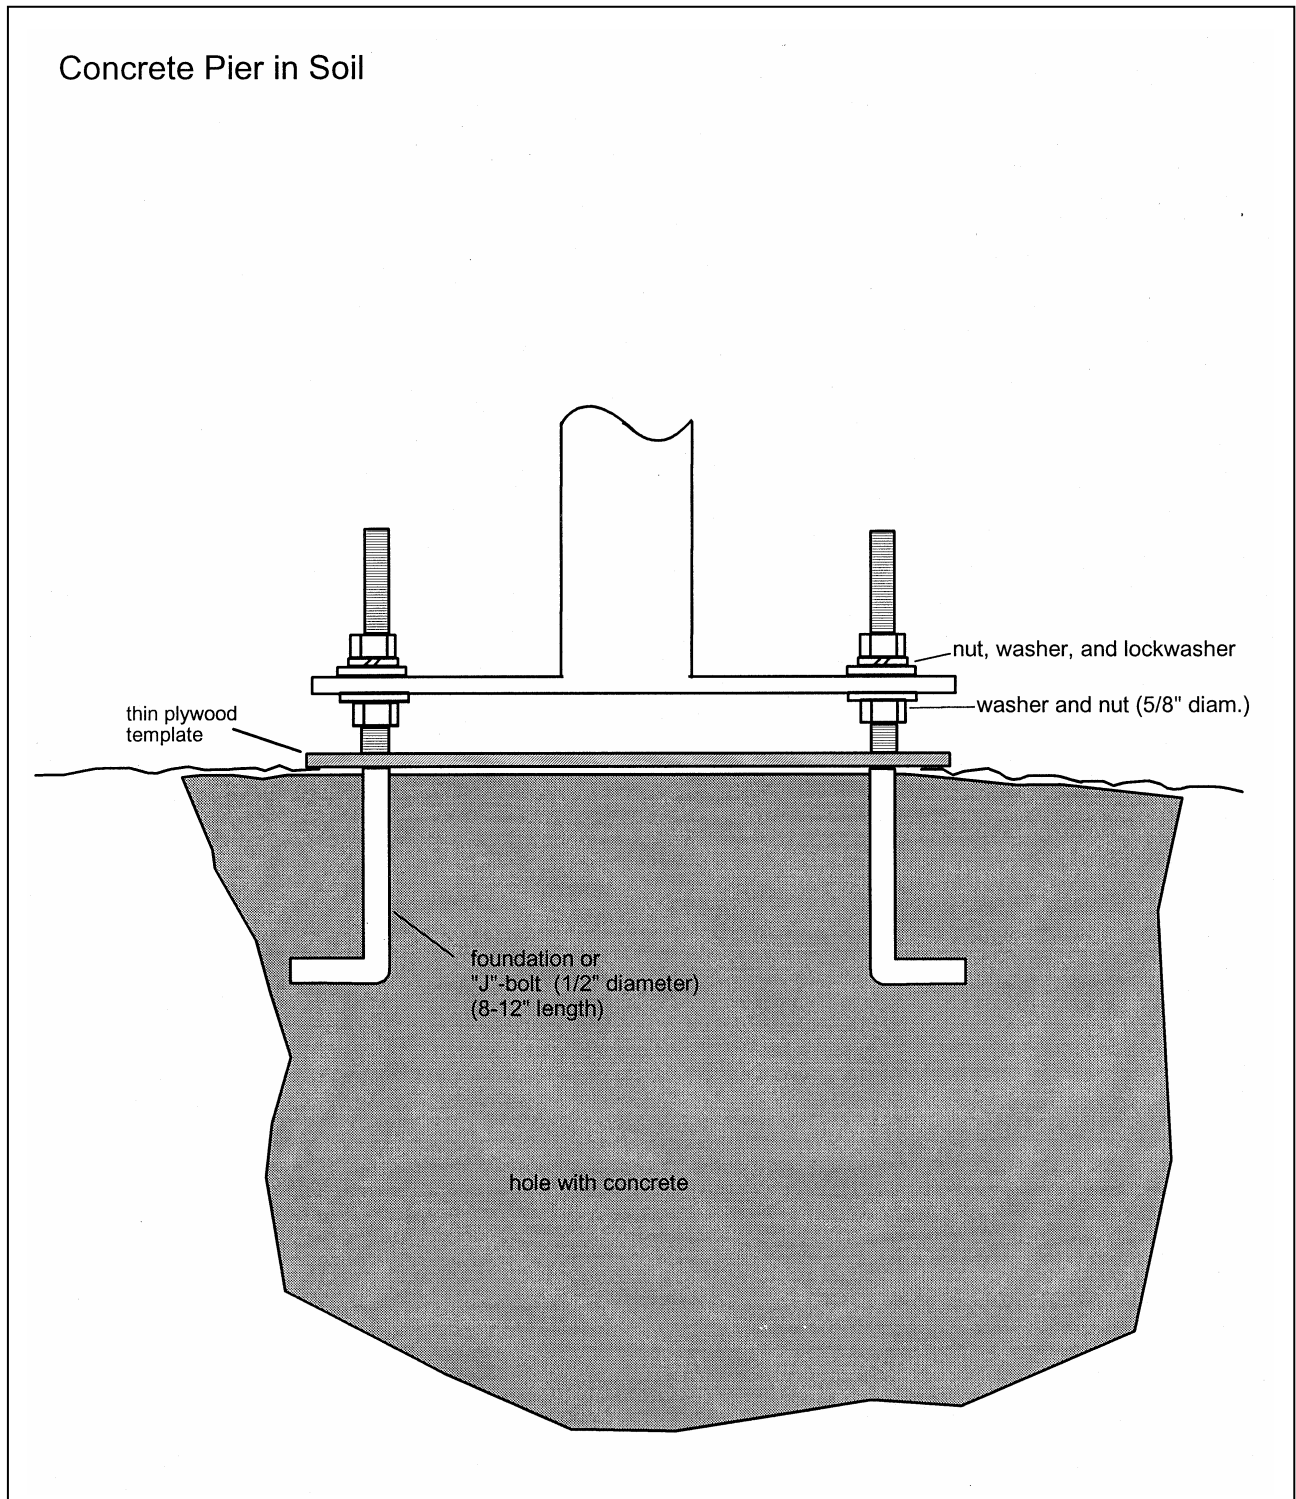

Figure 4-2. Mounting Post Configuration in Concrete Pier in Soil Surface.
The hole size, amount of concrete, type of hardware used, and other installation related hardware may vary depending on the observed mounting soil conditions and determined configuration requirements. A diagram depicting a concrete pier installation in soil is provided as Figure 4-2.
- Place the template assembly on the wet concrete and work the J-bolts into the concrete as shown in Figure 4-2. Be careful to verify that the template is aligned on the selected vista (Section 4.2).